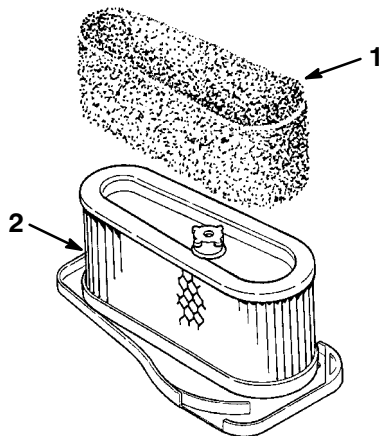

Figure 30
4. Carefully slide the foam element off the paper element (Fig. 30).
1. Carefully slide the foam element onto the paper air cleaner element (Fig. 30).